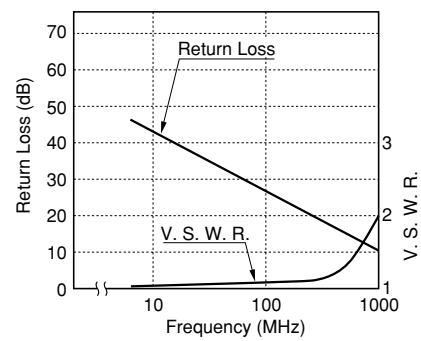

Figure 3.9 High-frequency characteristics
Figure 3.9 shows the performance of the EC2 and the EE2 series relays when a high-frequency signal is switched by the contacts of the relay. Figure 3.9 (1) shows the test circuit. Figure 3.9 (2) shows the isolation loss of the relay. Figure 3.9 (3) and Figure 3.9 (4) respectively show the insertion loss and return loss.